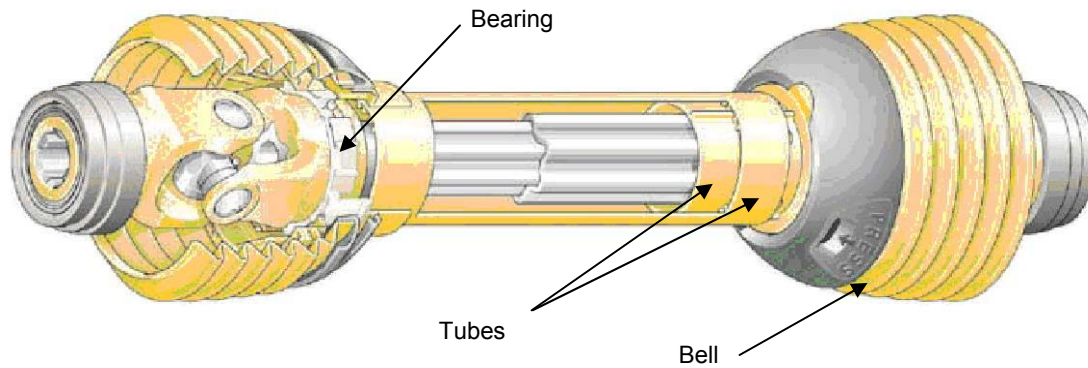

Figure 1. Components of a PTO Driveline Guard (source: <http://www.walterscheid.com>).
The driveline guard is usually the one that needs to be replaced because of wear and tear. It is also the one that comes to mind when referring to a PTO shield. Three types of parts make the PTO driveline guard: (1) the tube, (2) the bell, and (3) the bearing (**Figure 1**). To obtain the telescopic guard, two of each type of parts are matched together.
- (1) Tube: The tube is the cylindrical part that covers the shaft. On a PTO shield, one tube fits into the other tube to provide the telescopic feature. The tube is also referred to as the sleeve.
- (2) Bell: The bell is the conical part that covers the universal joint of the PTO shaft. It is integral to the tube on some shield types, but can also be a separate part. The bell is also referred to as the cone.
- (3) Bearing: The bearing is the part that rides in the universal joint yoke groove and that makes the shield free to rotate independently from the shaft. The bearing is also called the bushing.